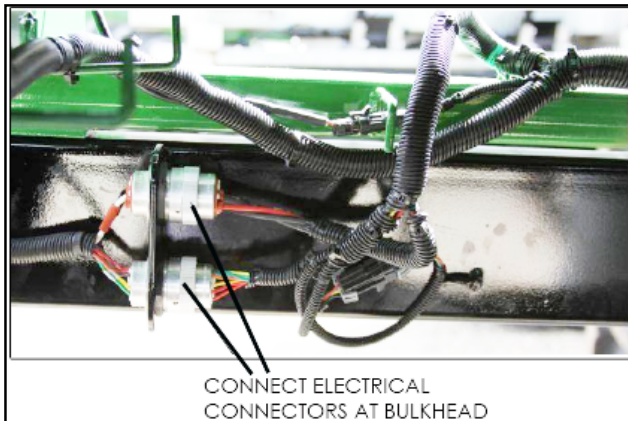

Figure 8a - Electrical Connection
1. Connect electrical connectors at bulkhead as shown in Figure 8a.